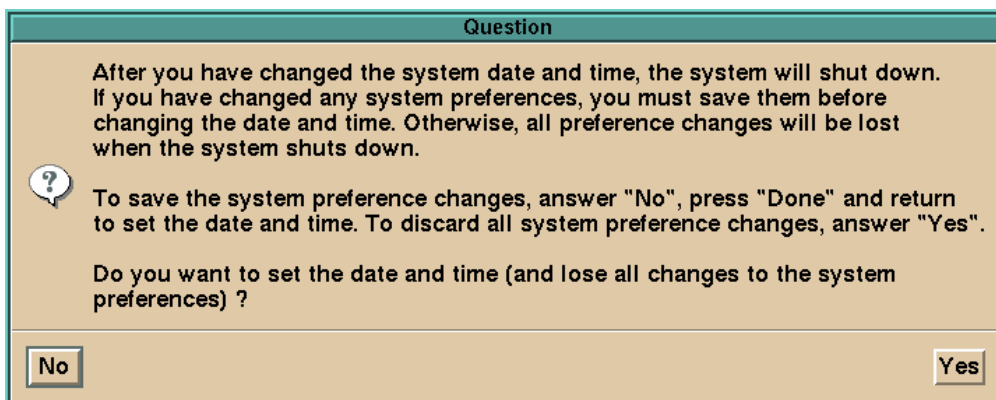

Fig. 6.7-3 Confirmation Dialog for Program Termination
- (1) Clicking [Set Date/Time] button displays the dialog shown in Fig. 6.7-3. If the program can be terminated, click [Yes] button, otherwise click [No] button. Clicking [No] button returns to display of the previous screen.